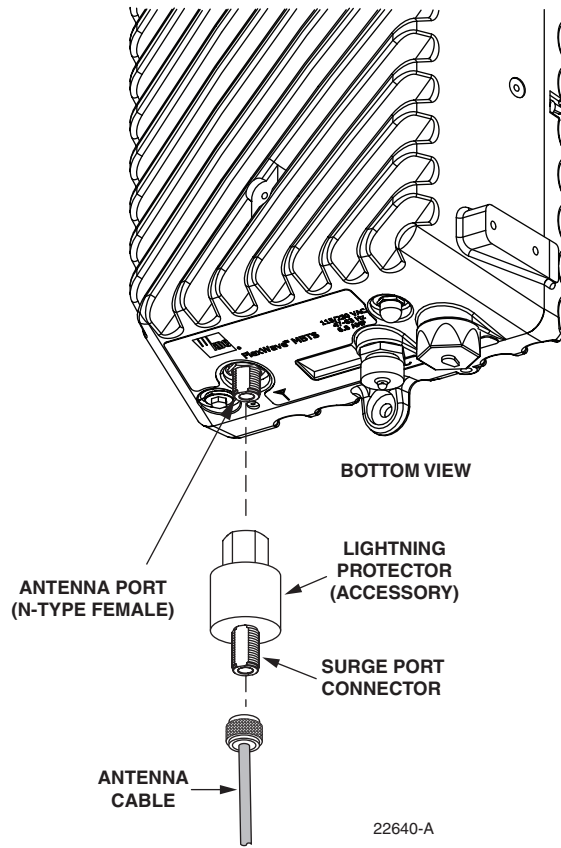

Figure 13. Connecting Base Station Antenna Cable to Antenna Port
1. Remove the dust cap from the N-type female connector located on the underside of the enclosure as shown in Figure 13.